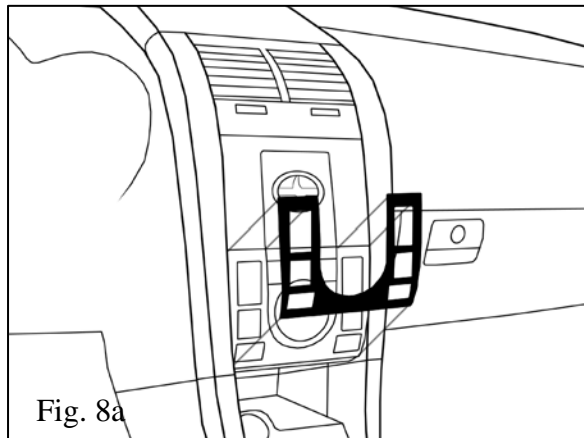

Fig. 8a
- (1) Align cutouts around buttons and dials.
- (2) Align part uniformly to edge of factory component. Edge of appliqué should be flush to edge of factory component, $\pm 1.0\text{mm}$. (Fig. 8a)
- (3) Gently touch part into position.